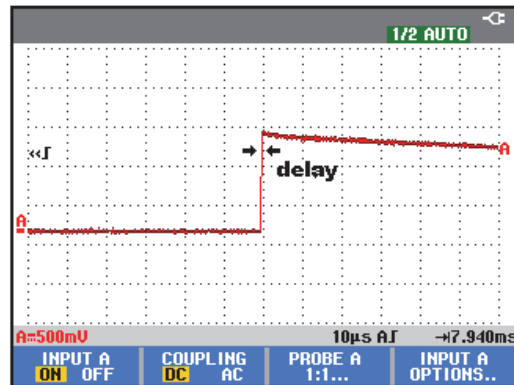

Figure 4-7. Time Base Verification
- d) Use  to move the trace to the left. Once the trigger point is shifted across the left hand border of the display, going off display, the trigger delay time with respect to the first vertical grid line will be indicated in the lower right of the display, see Figure 4-7.
5. Examine the rising edge of the time marker pulse at the height of the trigger level indicator top. Verify that the rising edge is at the center grid line. The allowed deviation is ±3 pixels, see Figure 4-7.